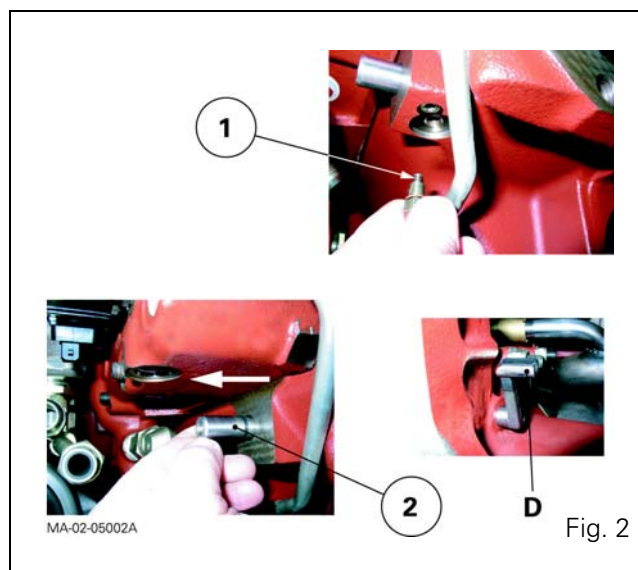
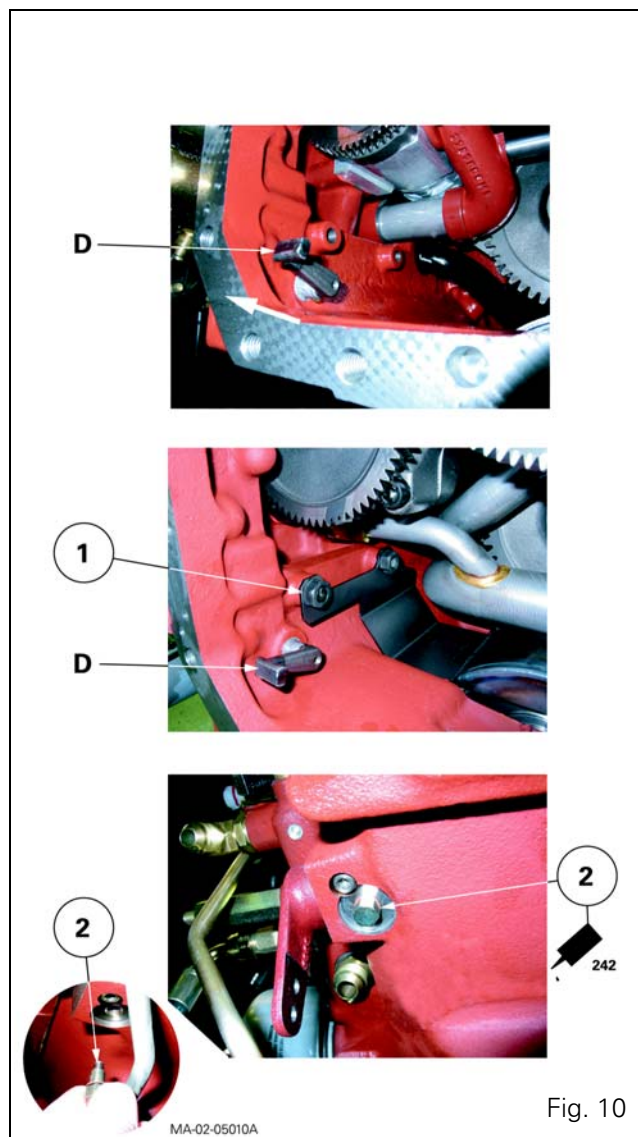

Fig. 2
Fig. 10
Special point (Fig. 2)
The rotation of the control finger "D" of the creeper gears is limited by the presence of the studs and nuts assembly (1) in the centre housing. (Tractors with closed centre hydraulic equipment - Fig. 10).
39. Pull the pin (2) outwards (Fig. 2) and direct the "D" finger towards the front of the centre housing (Fig. 10).
Engage the "D" finger (Fig. 10) in the creeper gear fork and position the seal on the screw (2) (Fig. 10) after lightly smearing it with Loctite 242 or equivalent. Moderately tighten the screw.